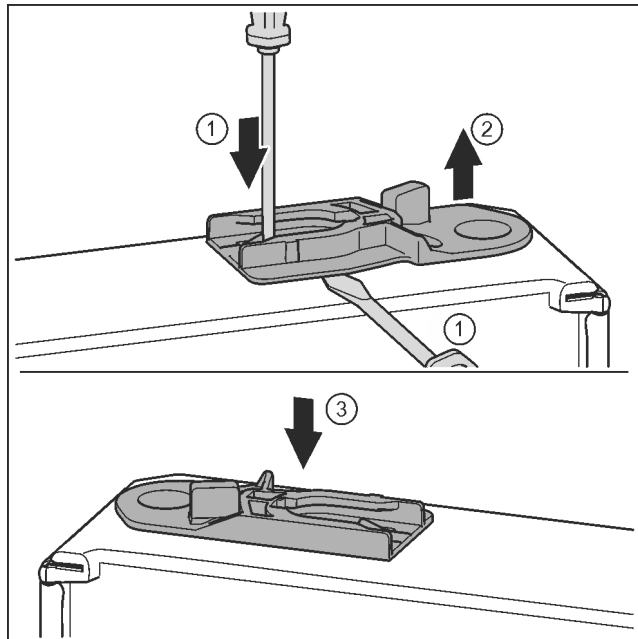

*Fig. 31*
- ▶ Remove the cover and fix it on the other side. *Fig. 31 (1)*
- ▶ Place the bearing bracket on the other side and screw in with the aid of a T25 screwdriver. Start with screw 2 at the bottom in the middle. *Fig. 31 (2)*
- ▶ Screw in screws 3 and 4. *Fig. 31 (3, 4)*
- ▶ Rotate the soft stop connection 180°. Screw in with a T25 screwdriver on the other side of the bearing bracket. *Fig. 31 (5)*
- ▶ Insert the bearing pin completely. Make sure that the catch mechanism is pointing to the rear. *Fig. 31 (6)*